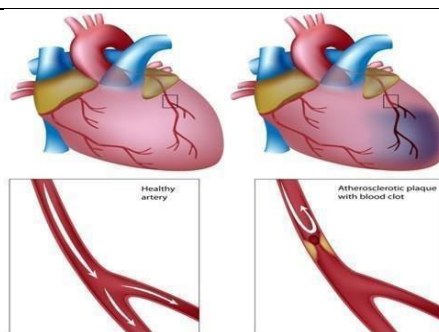

Fig 1.5: Anatomy of Heart Attack
- Immediately call medical/ambulance helpline or get someone else to do it. It is shown in Figure 1.5 Anatomy of Hear Attack.